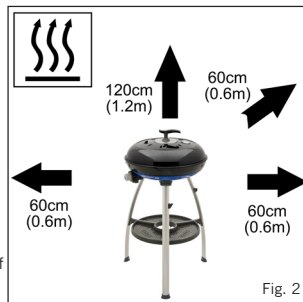

Fig. 2
- Ensure the appliance is used away from flammable materials. Minimum safe distances are: Above the appliance 1.2m, at the rear and sides 600mm (see fig. 2).